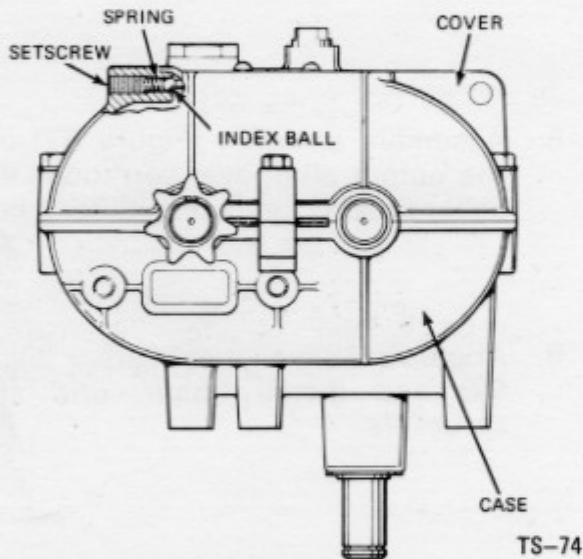

Figure 100
10. Install index ball, spring and set screw (Figure 100) in that order into cover and slowly tighten the screw 2 turns below flush.